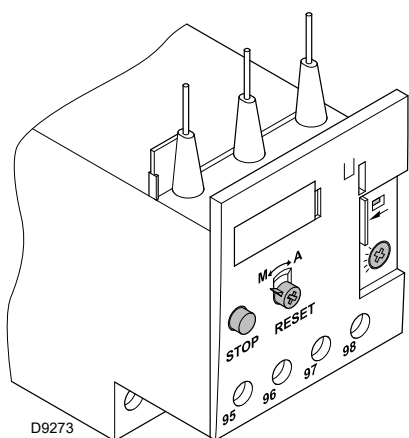

Fig. 38
The electro-mechanical thermal relay (Fig. 38) is used to avoid damage to the motor owing to a strong increase in absorption or the lack of a phase.
- To reset, in the case of an intervention of the thermal relay, press the button **“RESET”** (Fig. 38).
- The button **“STOP”** (Fig. 38) opens the NC (95-96) contact and stops the motor.